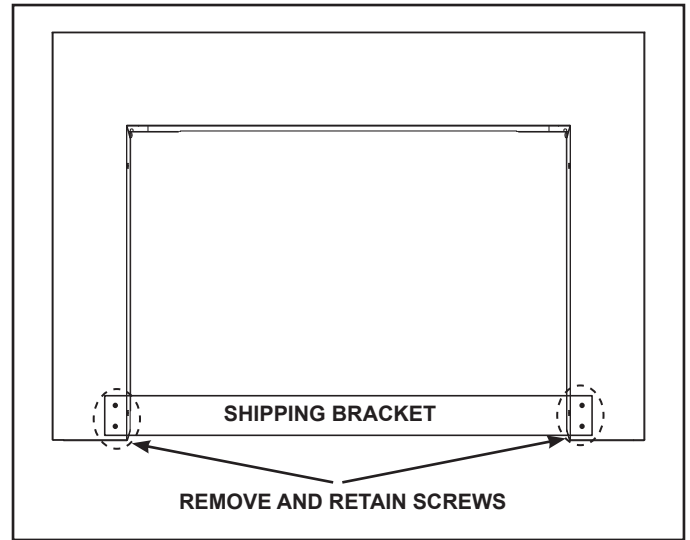

Figure 4.3 Shipping Bracket
3. Remove the shipping bracket by removing the four screws that attach the bracket to the surround. Keep the four screws to use later to attach surround to appliance. Discard the bracket. See Figure 4.3.